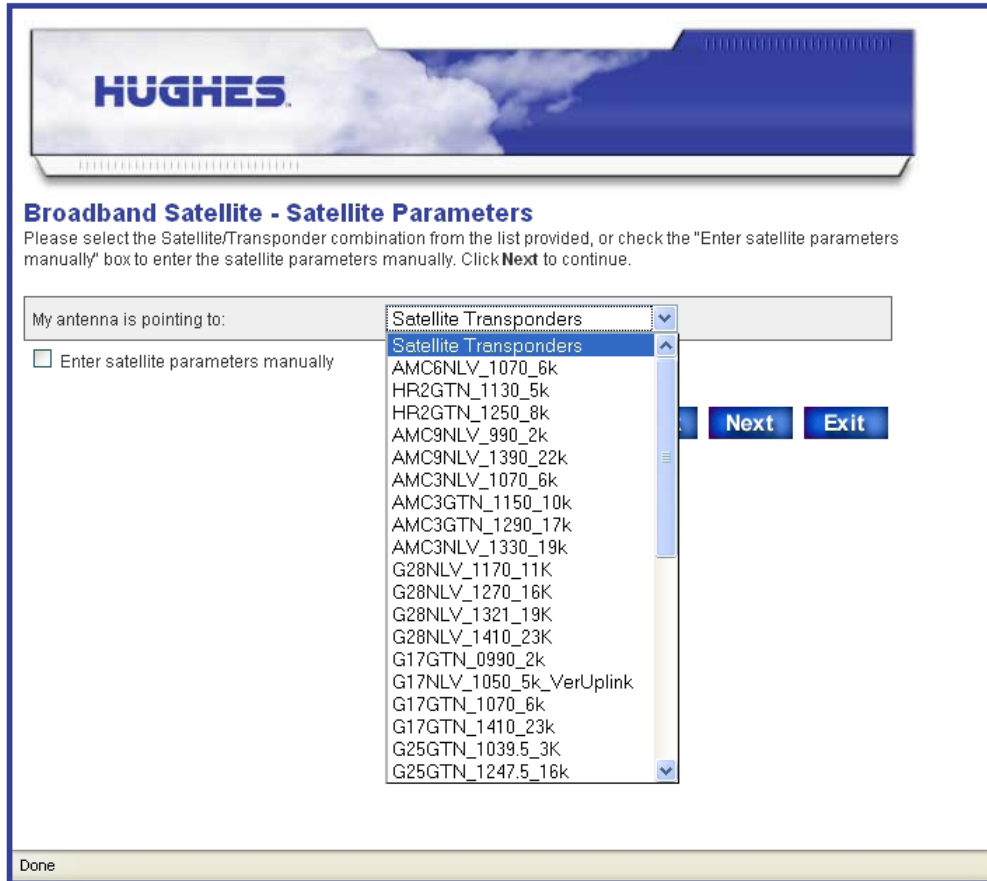

Figure 18: Satellite Parameters screen
**Note:** The list of satellite transponders may be updated at any time, so you may see different transponders than those shown in *Figure 18: Satellite Parameters screen* on page 30.
This is an *alternate* method for entering the satellite parameters. You must use this method if the satellite and transponder for your installation are not listed in the drop-down list in Figure 18: Satellite Parameters screen on page 30 and you were not provided with an sbc.cfg file.
1. On the Satellite Parameters screen, select the Enter satellite parameters manually checkbox shown in Figure 18: Satellite Parameters screen on page 30.